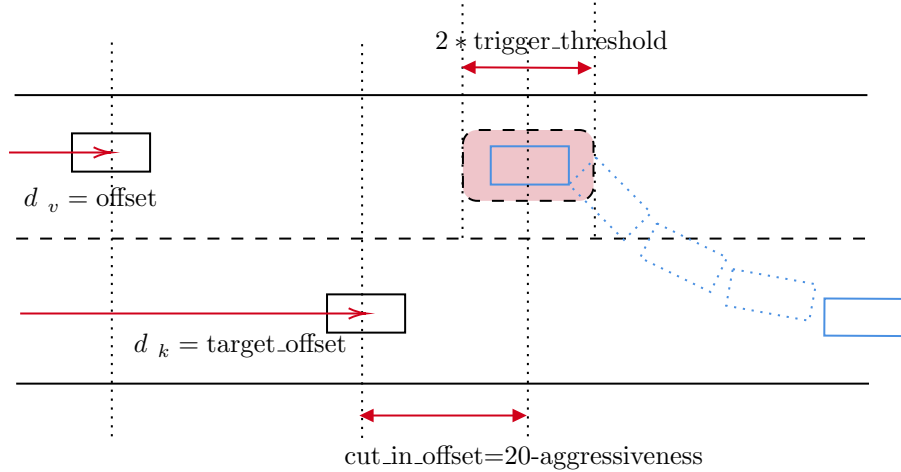

Figure 1: CUT-IN paramaters. The red square denote the region which the vehicle must reach before start to cut-in to other lane.
Fig.1 illustrates how we select the main configuration parameters of the cut-in task, The blue rectangle on the top lane shows the position in which the cut-in task is triggered. As it is shown in Fig.1 the distant between this point and the kyber vehicle is equal to  $20 - \text{aggressiveness}$  where aggressiveness changes between 0 to 10.
After the vehicle enters the red square in Fig.1, a first set of waypoints are generated (red squares in Fig.1) using the current position of the vehicle and the target lane (kyber vehicle lane). Next, four points (blue circles in Fig.1) are chosen to construct the cubic bezier curve for generating the desired waypoints (green squares in Fig.1) from the current position of the vehicle to the next lane. The first point is the location of the vehicle. The second/third/fourth points are dividing the first set of waypoints (red squares in Fig.1) to three equal segments. Finally, the desired cubic bezier curve is constructed and the cut-in waypoints (green squares in Fig.1) are generated. These waypoints then will be sent to OpEn solver to ensure that no collision will occur with nearby vehicles and the output trajectory of the OpEn will be fed to trajectory tracking controller to calculate the amount of throttle and steering needed to generate such behavior. The throttle and steering input then applied to the vehicle model in pybullet.
- **cut\_in\_offset**: the minimum and maximum values for this parameter can be changed by choosing different values for 20 in its definition as it is shown in Fig.1
- **trigger\_threshold**: This parameter defines the red box in Fig.1 that the vehicle must be located in to start to cut in to other lane.
and controls how fast the vehicle reaches to the red box in Fig.1 to initiate the transition to the other lane.